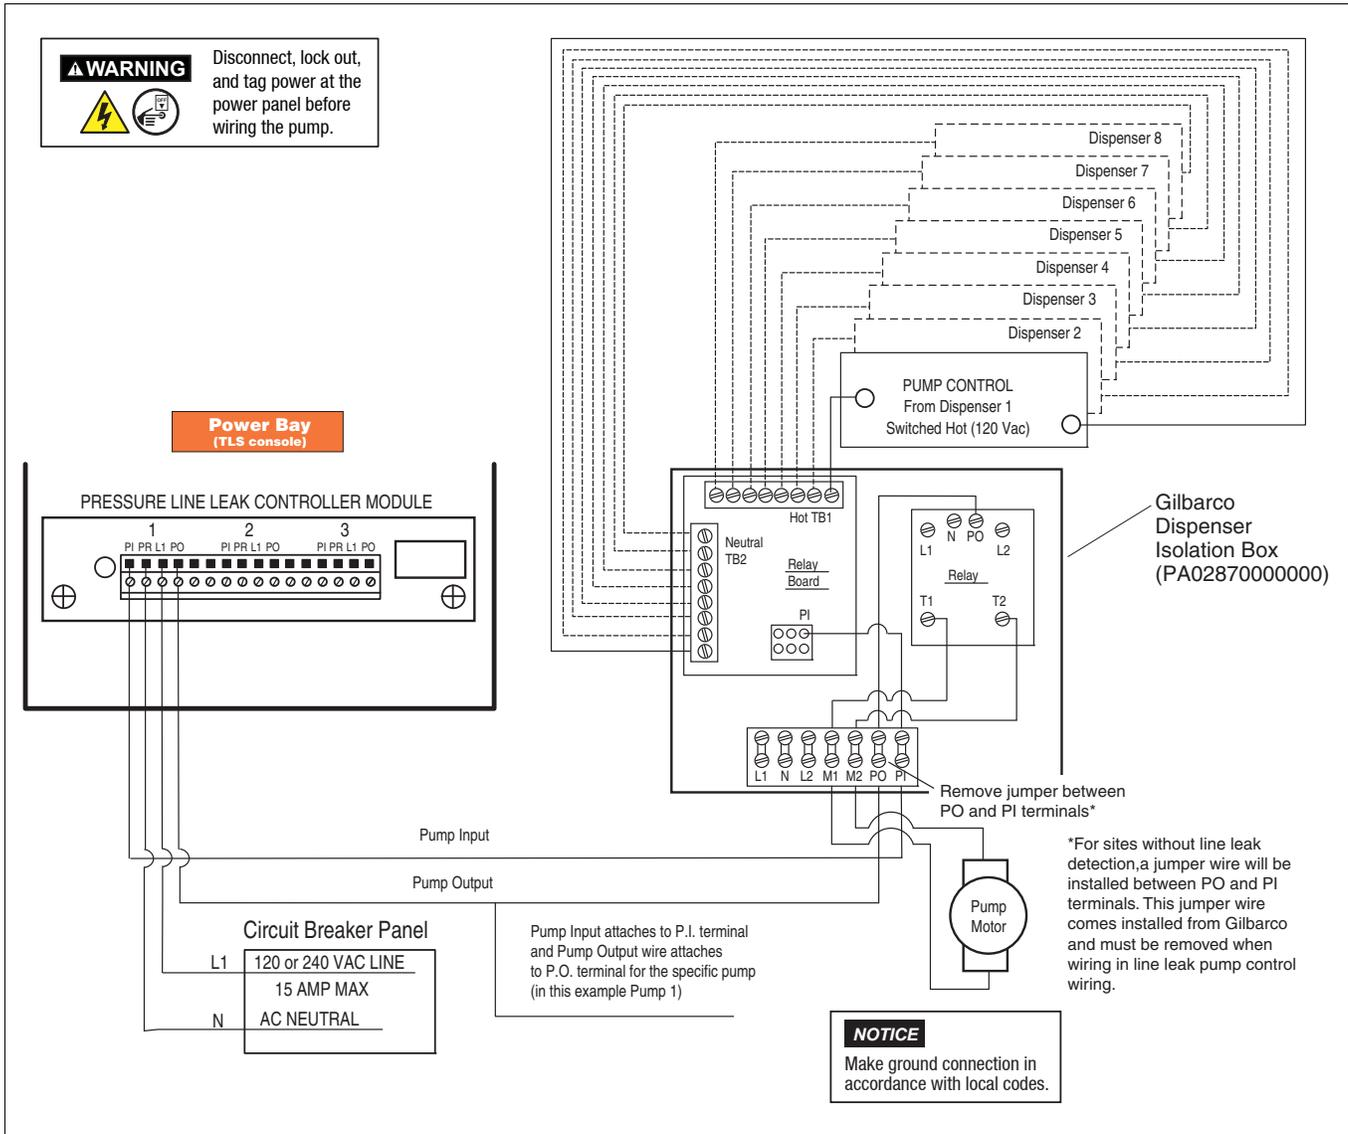

Figure 23. PLLD System And Pump Control Diagram For Gilbarco Dispenser Isolation Box
- Gilbarco dispenser isolation box (ref. Figure 23)